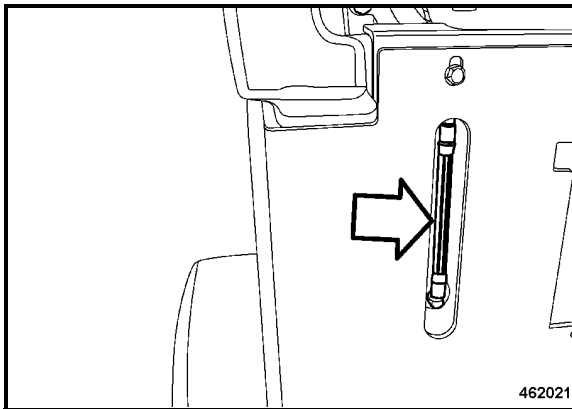

Fig. 82
- Check on the water level indicator (Fig. 82) whether the water tank is sufficiently filled.